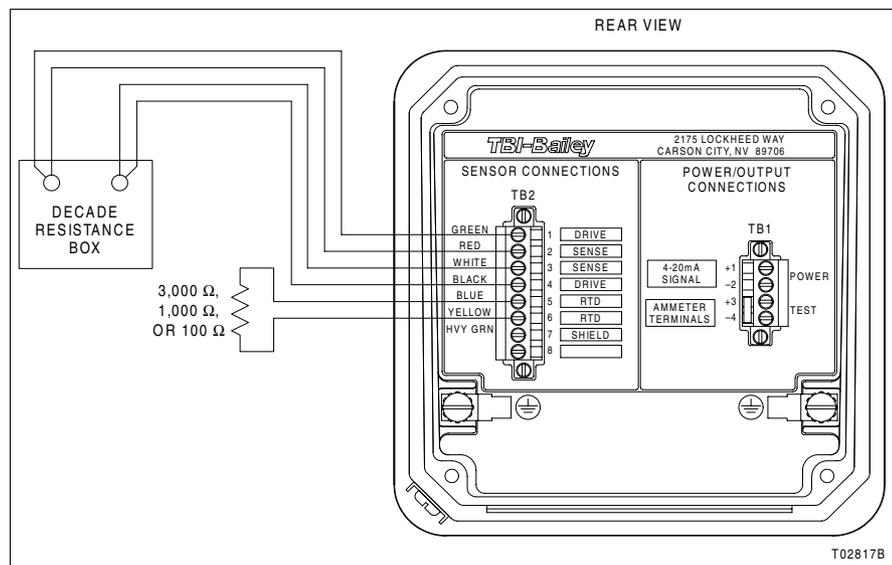

Figure PR26-1. Sensor Simulation Setup
2. There are two ways to perform sensor simulation. Either connect the appropriate resistor, based on temperature sensor configuration, across the temperature sensor input as shown in Figure PR26-1, or configure the transmitter for manual temperature compensation with a constant 25°C temperature.
3. Connect the transmitter in the setup shown in Figure PR26-1.